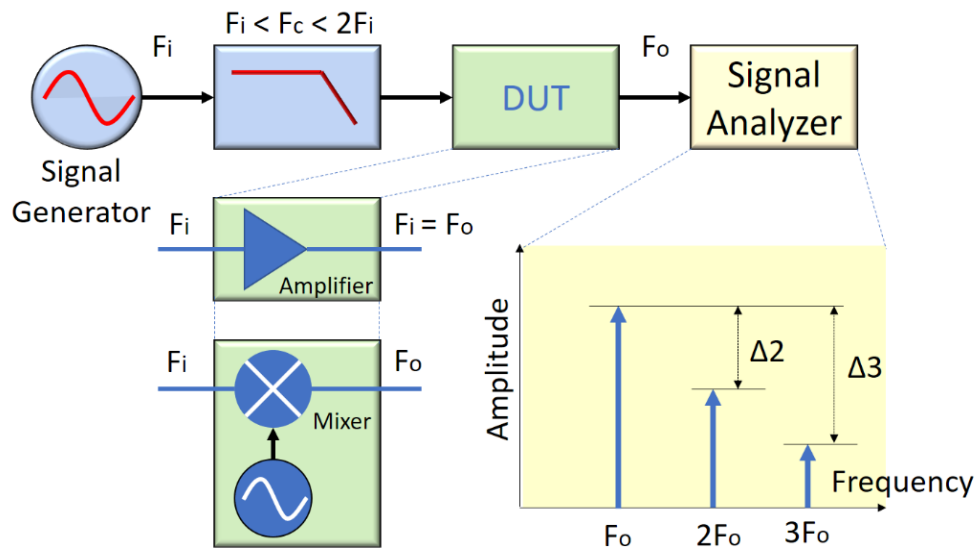

Figure 7.1: Harmonic distortion measurement setup
Using a continuous wave (CW) tone, we can explain how harmonic distortion is measured. Figure 7.1 shows the harmonic distortion measurement setup. The device under test (DUT) could be an amplifier or a mixer. The signal generator outputs a CW with a frequency of  $F_i$ . This CW goes through a low pass filter to remove harmonic distortions from the signal generator. Notice that the cut-off frequency of the low pass filter,  $F_c$ , is less than  $2F_i$ .